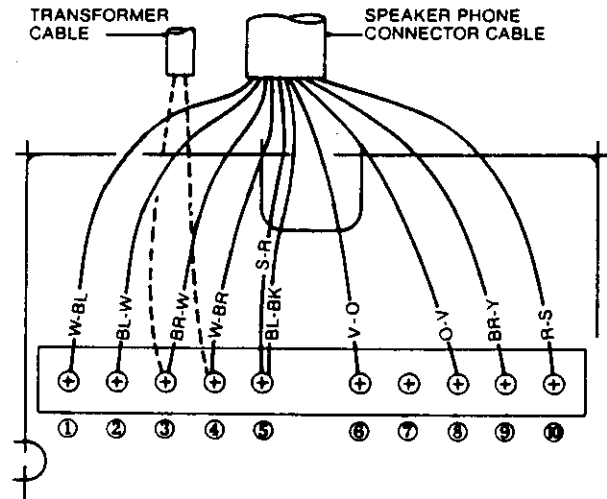

FIGURE 7 — EXTERNAL SPEAKERPHONE CONNECTIONS TO ESIU
3.1.2 The spade-tip connectors are to be connected to the terminal strip connectors on the ESIU PCB as shown in Figure 7.